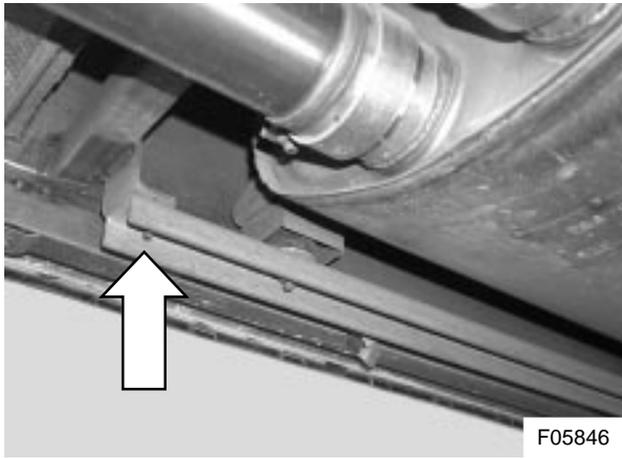

Figure 5: Muffler U-beam rear most mounting bolt
- 4) Loosen and remove the two U-beam bolts and nuts securing the left-hand muffler mounting brackets to the chassis (see Figures 5 and 6).